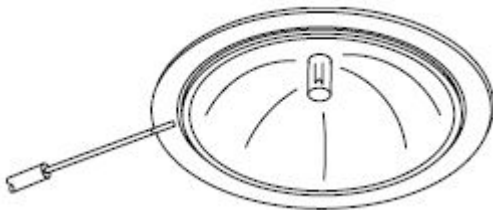

fig. 5
Open the stainless steel panels and re-move the grease filters in order to avoid damaging them in any way and to allow installation; screw the threaded bars provided into the plugs as shown in fig.5.
**Do not remove** the entire fixture (socket) as this is very difficult to reinstall. Gently pry the bulb from the fixture using a soft instrument such as a toothpick. Steel instruments will scratch the surface (refer to figure 5).